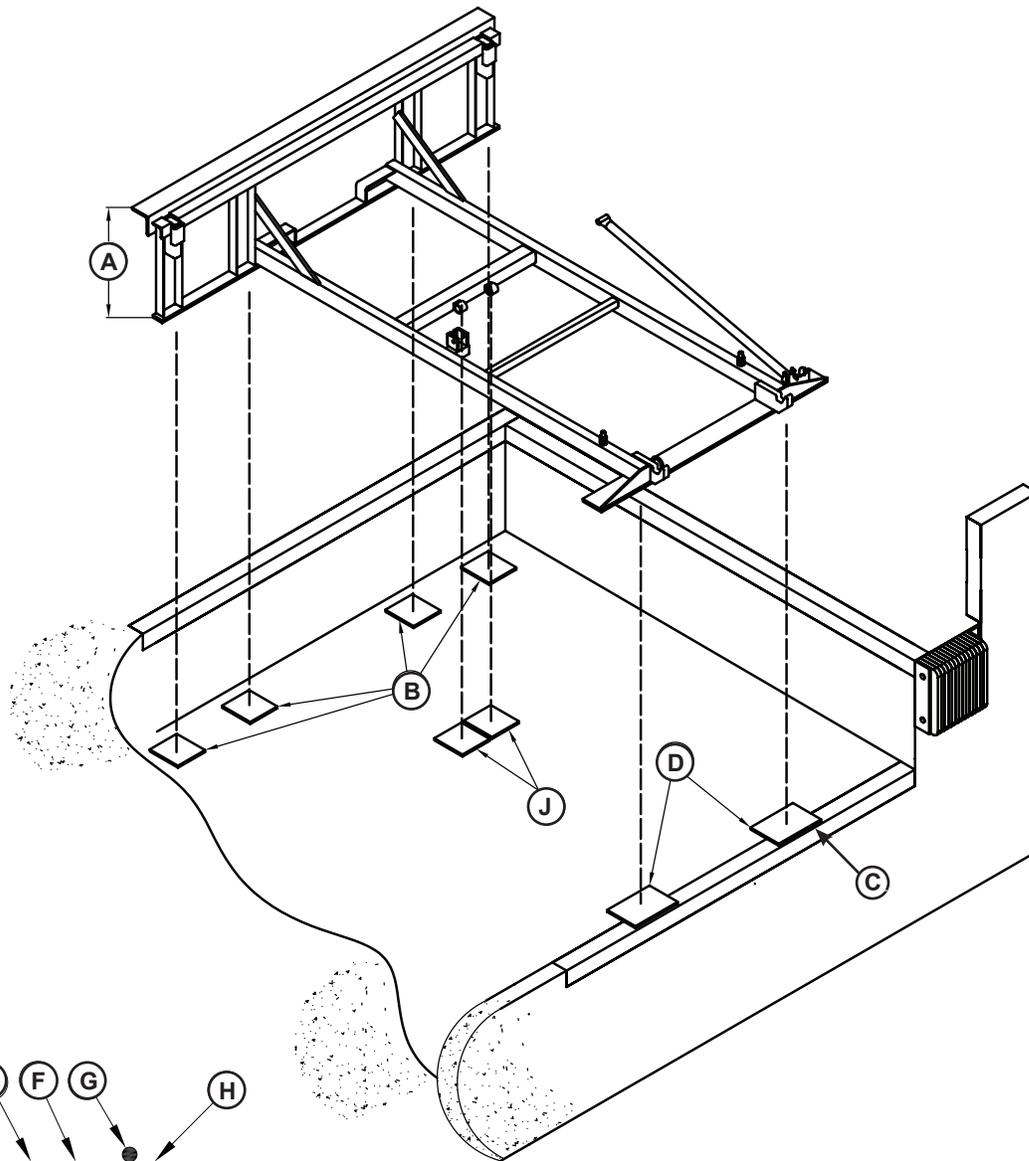
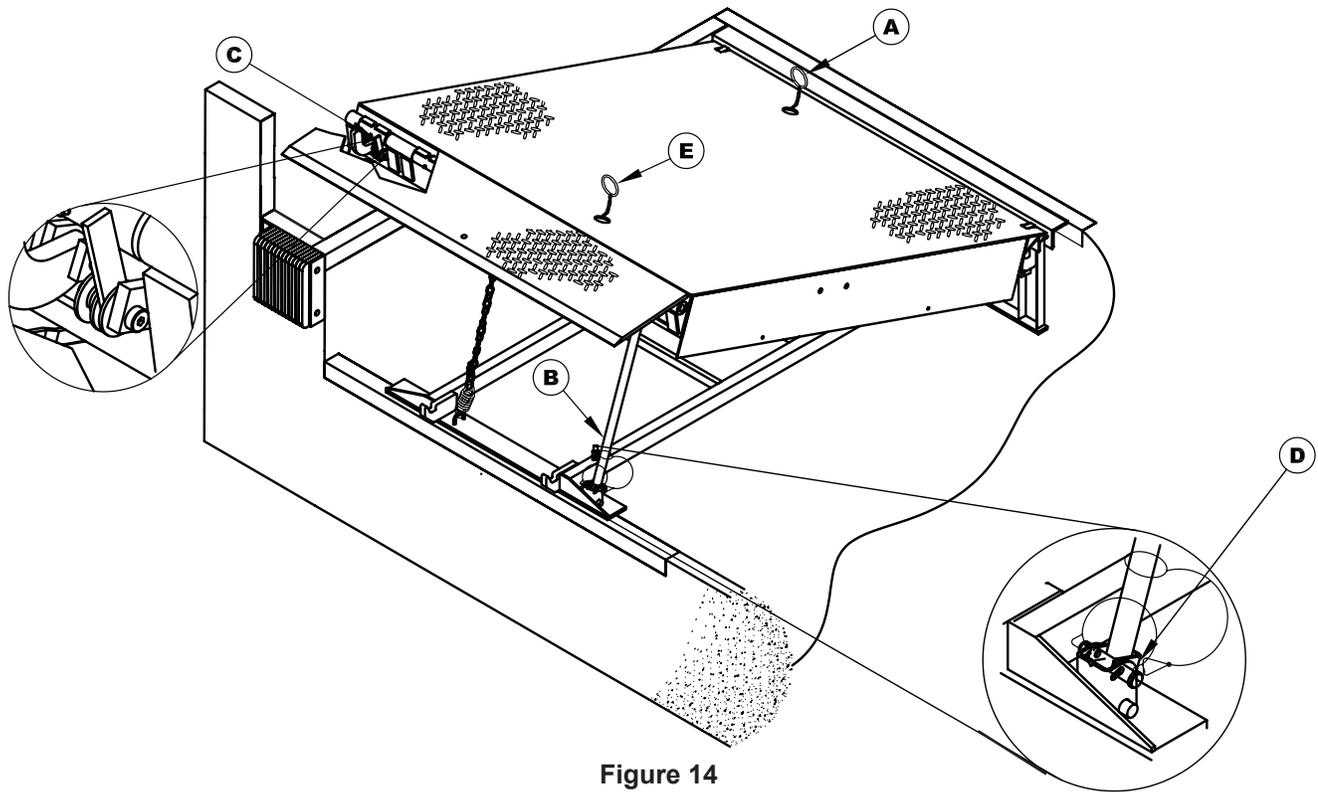

Figure 9
Figure 14
22. Shim and weld the maintenance prop (Figure 14):
- a. Install shims under maintenance prop (B) where prop attaches to leveler frame. Make sure prop is solidly shimmed.
- b. Raise maintenance prop (B) to the service (upright) position and lock prop in this position using an OSHA approved locking device.
23. Install shims under lift arm (J, Figure 9 on page 14) at locations using an acceptable shimming method (see Figure 15). The lift arm pivot must be solidly shimmed the entire length of the lift arm pivot. Make sure the lift arm pivot is level from side-to-side.